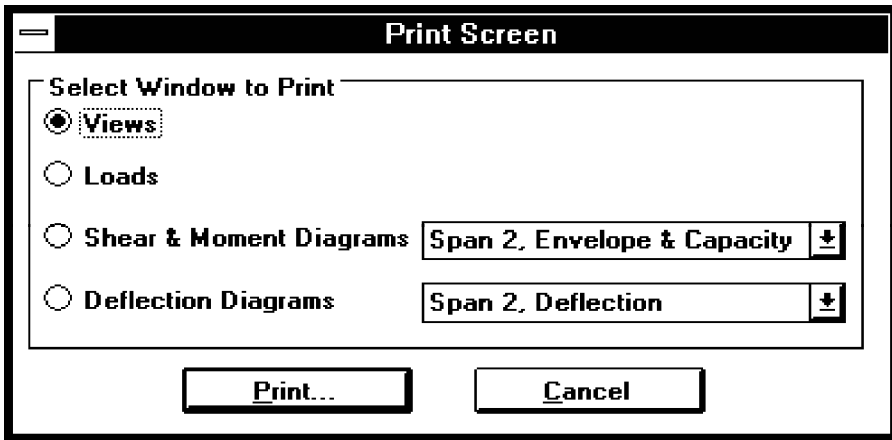

Figure 4-4—The Print Screen dialog box
- From the **File** menu, select **Print Screen**. The dialog box of Figure 4-4 appears.